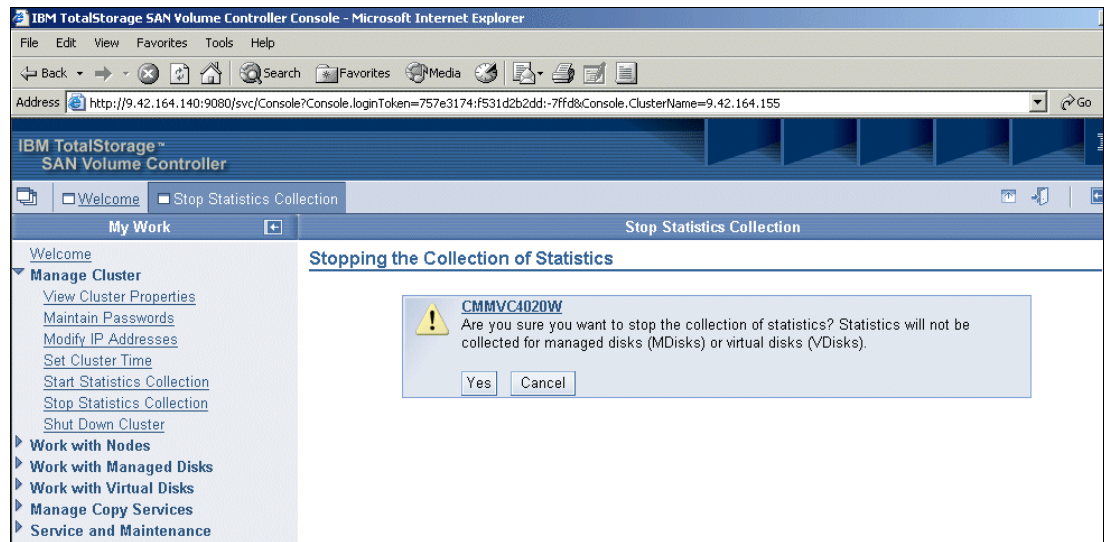

Figure 9-15 Stopping the collection of statistics
2. The Stopping the Collection of Statistics panel (Figure 9-15) opens. You see a message asking whether you are sure that you want to stop the statistics collection. Click **Yes** to stop the ongoing task.